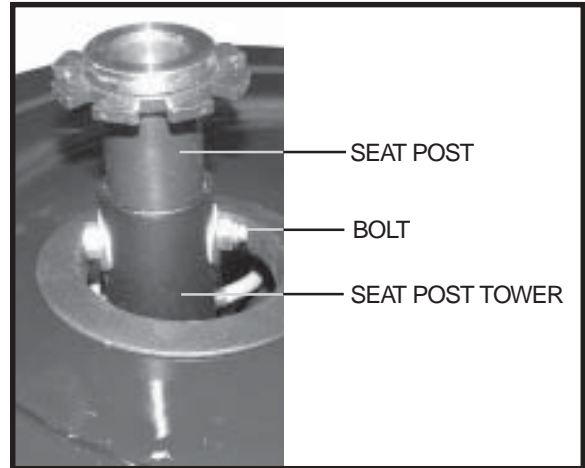

Figure 15. Seat Height Adjustment
3. Use two 17-mm. wrenches to loosen and remove the hex head bolt and nut. See figure 15.